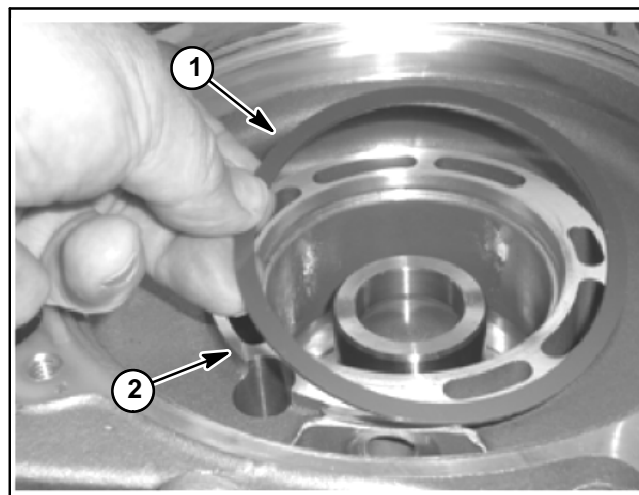

Figure 18
10. Remove the gear spacer from between the gear case and the ring gear (Fig. 18).